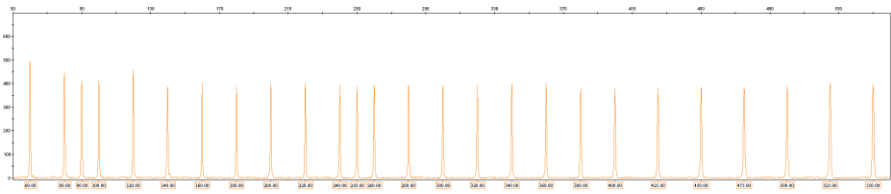

Figure 1. Electropherogram of the DNA Size Standard 550 (BTO), fragments with lengths in bp
- Presence of all fragments at: **60, 80, 90, 100, 120, 140, 160, 180, 200, 220, 240, 250, 260, 280, 300, 320, 340, 360, 380, 400, 425, 450, 475, 500, 525, and 550 bp** (see Figure 1)